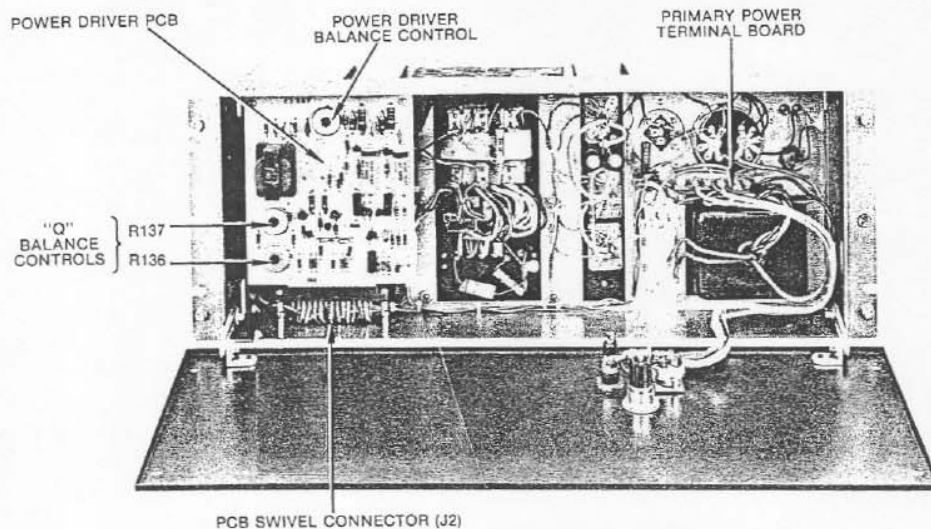

Figure 2. Front View with Hinged Panel Open
1. Remove four screws securing front panel. Open and lower panel as shown in Figure 2.
2. Locate terminal board TB3 above power transformer T1 (see Figure 2).
4. Use a rating label to show 240V rating. Affix label over previous 120V rating (see Figure 2).